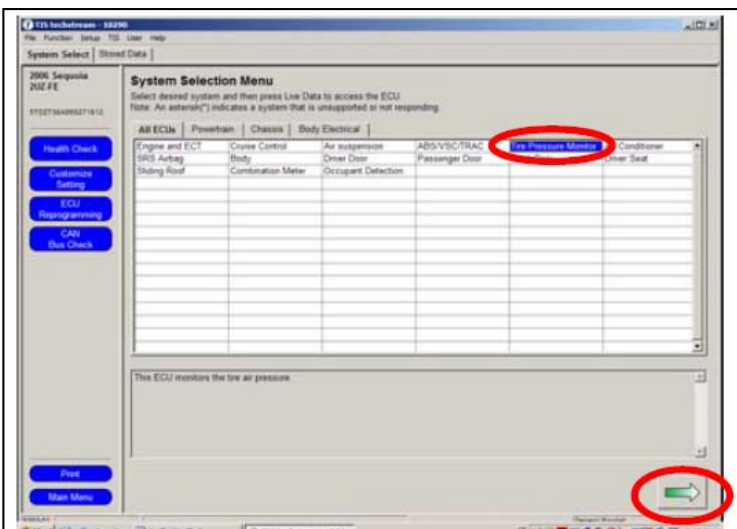

Figure 14c
- f. Select “Tire Pressure Monitor” Then click the green arrow located on the bottom right. See Figure 14c.